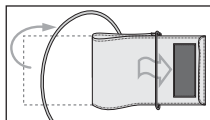

Fig.6
1. Insert the cuff end for about 5 cm into a metal ring as shown in the figure (fig. 6).